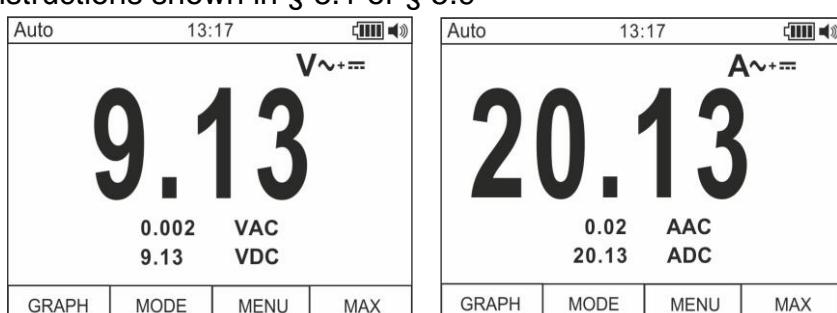

Fig. 3: AC+DC voltage or current measurement description
2. Press the **F2** key selecting the ““ $V\sim+\sim$ ” or “ $A\sim+\sim$ ” modes (see Fig. 3)